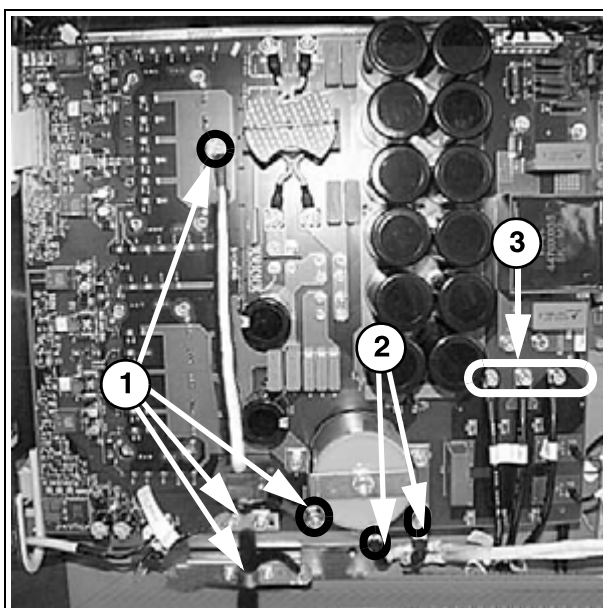

Fig. 13:
- Carefully remove the connections and clamps for the power cable (1, 2/Fig. 13 / p. 22) and disconnect the cable.
- Disconnect the cable connections, one by one (3/Fig. 13 / p. 22) and reinsert the screws one at a time after disconnecting the cable (a rectifier is located on the rear that is secured in place with just the connection screws (3/Fig. 13 / p. 22)).
- Disconnect the screws for the cable, one by one (3/Fig. 13 / p. 22) and secure the cables one at a time (a rectifier is located on the rear that is secured in place with just the connection screws).
- Plug in the power cable (1, 2/Fig. 13 / p. 22) and tighten the screws.
- Place on the clamps for the power cable (1, 2/Fig. 13 / p. 22).